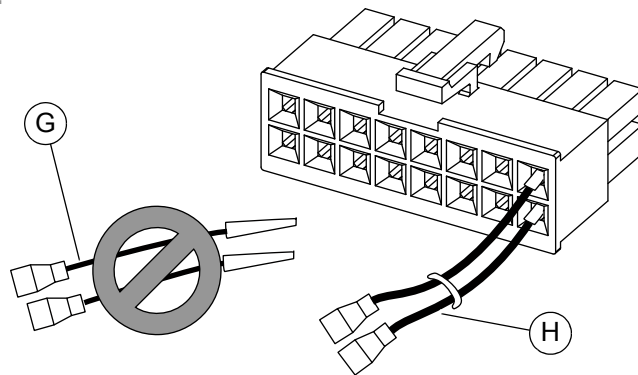

Figure 3 - Install Wiring (Evolution 2.0)
2. Locate existing extension wires in generator harness (connected to form a jumper). Separate connectors in jumper so two individual wires extend from J2 connector as shown in Figure 3.